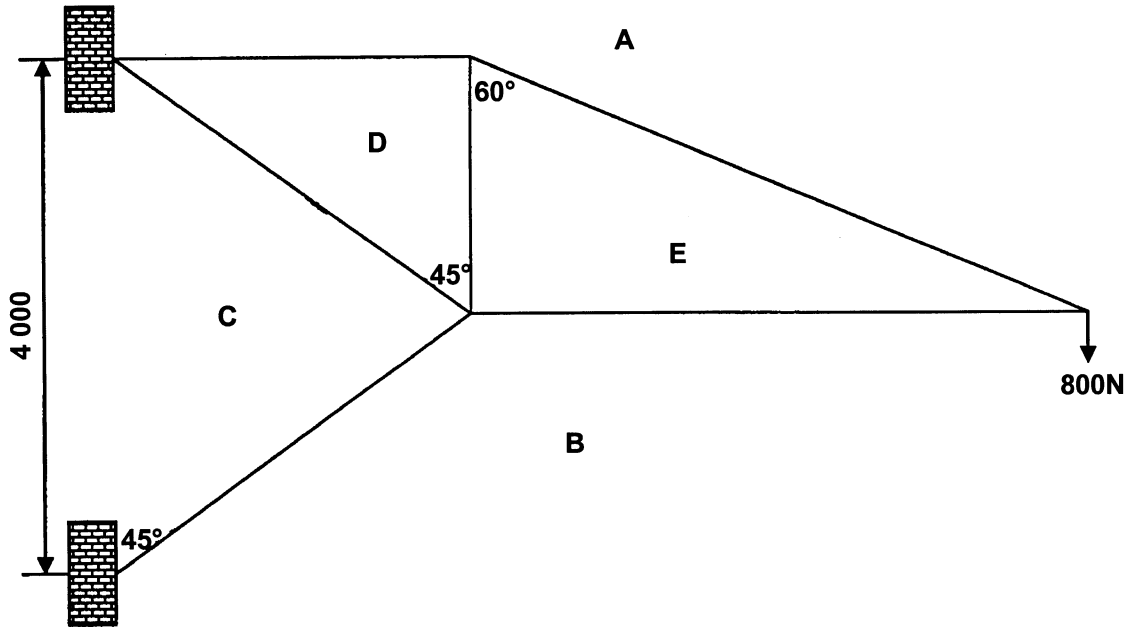

Figure 1
2.1 **Figure 1** represents a cantilever which is subjected to a 800 N force at the free end. The two supports are 4 metres apart.